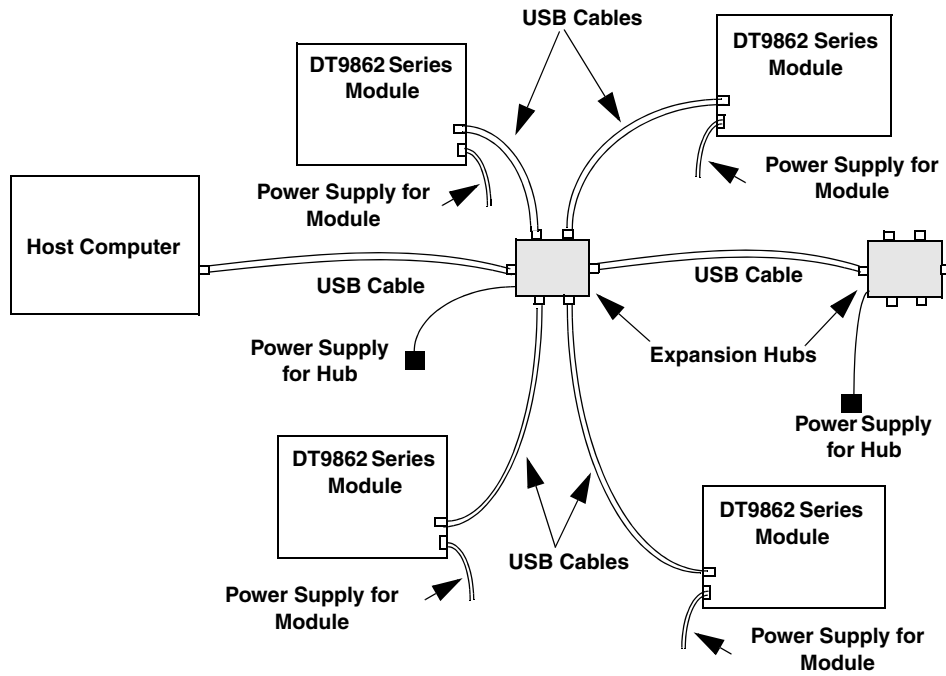

Figure 5: Attaching Multiple Modules Using Expansion Hubs
6. Repeat these steps until you have attached the number of expansion hubs and modules that you require. Refer to Figure 5.